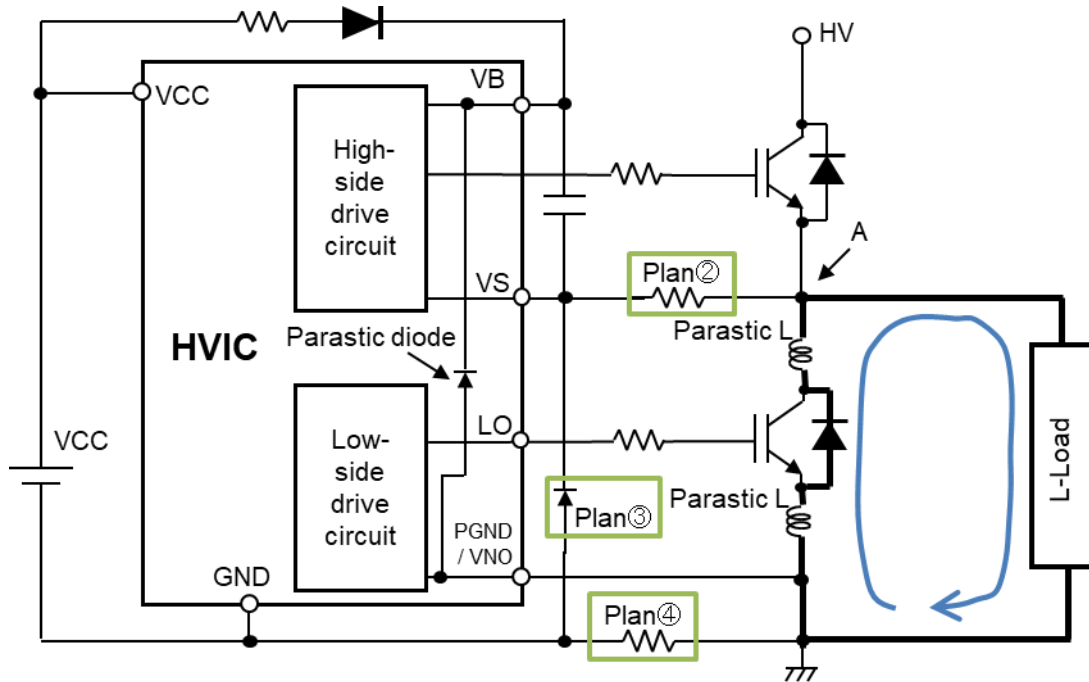

Fig.15 Malfunction in connecting L-Load
The voltage of VS terminal can be lower than that of GND terminal transiently because of the arrangement and the trace for the elements on the mounting board when carrying out ON/OFF operation of the power semiconductor (IGBT/MOSFET) using HVIC and the malfunction may be caused. The relation between malfunction and VS undershoot is shown in Fig.15.
- ① Increase the gate resistor of high-side power semiconductor, and decrease the transient current flowing through parasitic L.
- ② Add the resistor between A point and VS terminal, and restrict VS voltage decrease. However, this resistor is placed on the charge route of bootstrap capacitor. So the gate voltage of high-side IGBT increases, arm short can be caused. Please select appropriate resistance value.
- ③ Inserts a diode which has small VF between GND terminal and VS terminal.
- ④ Restrict the current flowing through the diode(Plan③) by adding the resistor between GND and PGND/VNO, and enhance the clamp effect of the diode.
- ⑤ Shorten and widen the trace of the bold line in Fig.15.